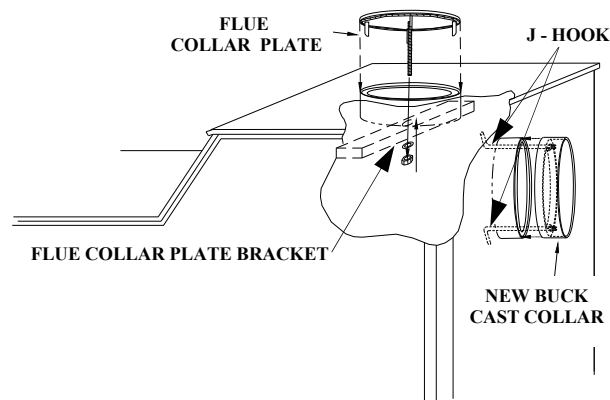

Figure 34.
4. Next, install a New Buck Cast Collar Part # MA6CHIMCNB to the flue of the heater. (See Page 40 Figure 34).